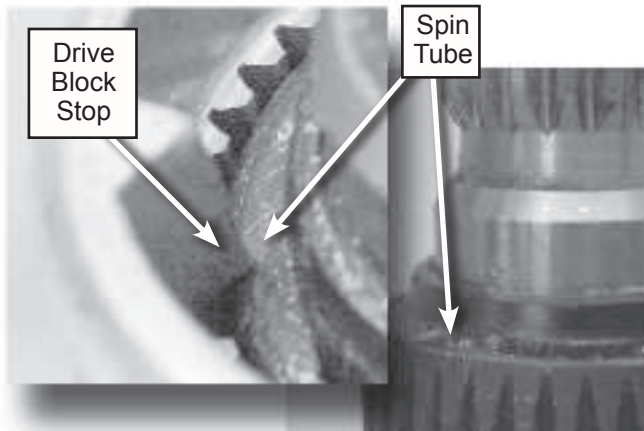

Figure 5
6. Install new drive block onto spin tube. The drive block should be fully seated on the spin tube with the stops resting on the top of the spin tube. See Figure 5.